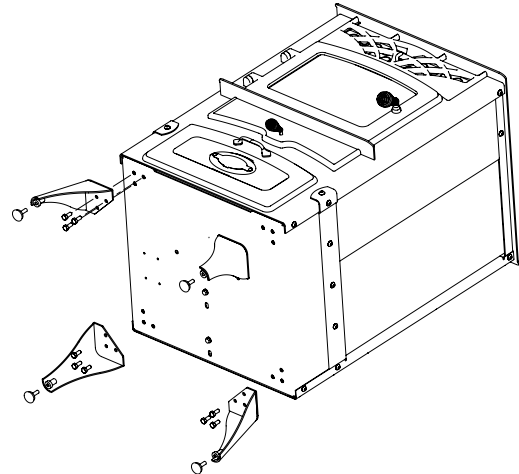

Figure 4: Leg Assembly
2. Assemble the legs using provided (12) leg bolts as shown in figure 4.